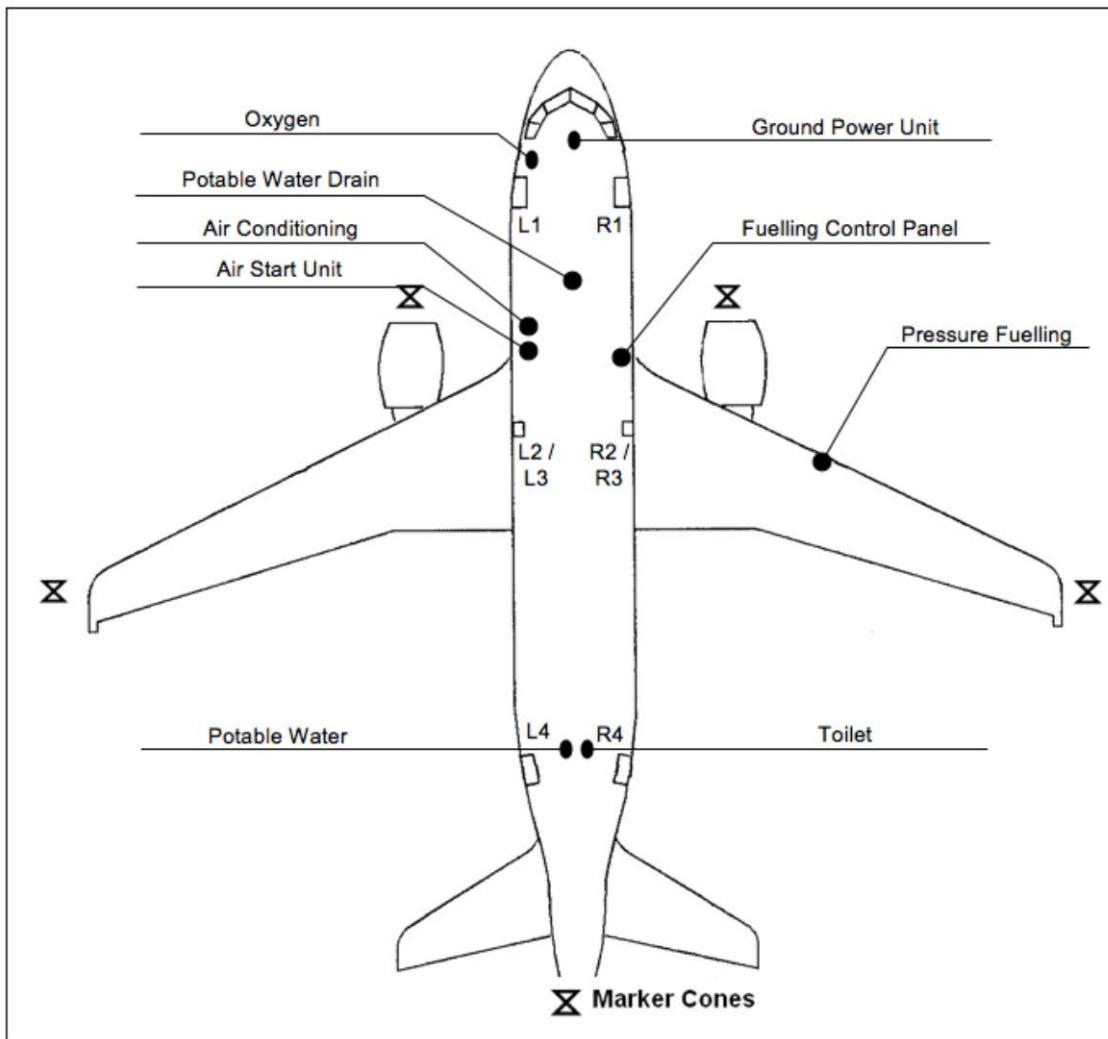

Figure 14 – Airbus A320 – Location of Service Points
- 1) Figure 14 shows location of servicing points used during various turn around activities.